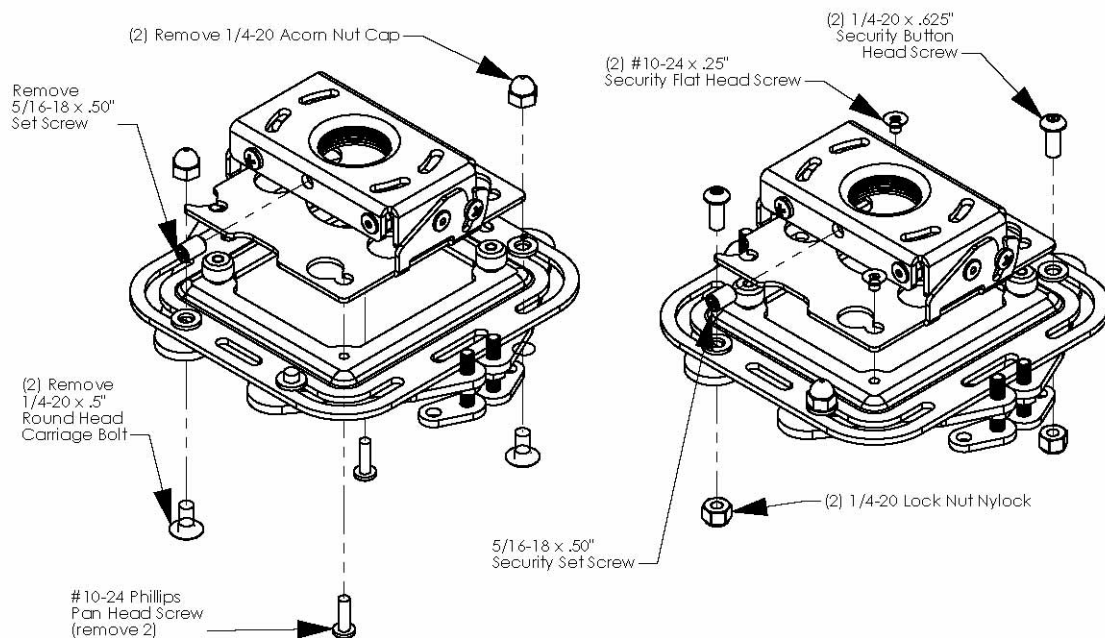

Figure 7. Adding Optional Security
1. Using security wrench (provided), remove 5/16" standard set-screw and replace using 5/16" security screw (see Figure 7).
5. Remove two 1/4-20 x .5" round head carriage bolts and 1/4-20 acorn nut caps and replace using two security screws and lock nut Nylocks (see Figure 7).